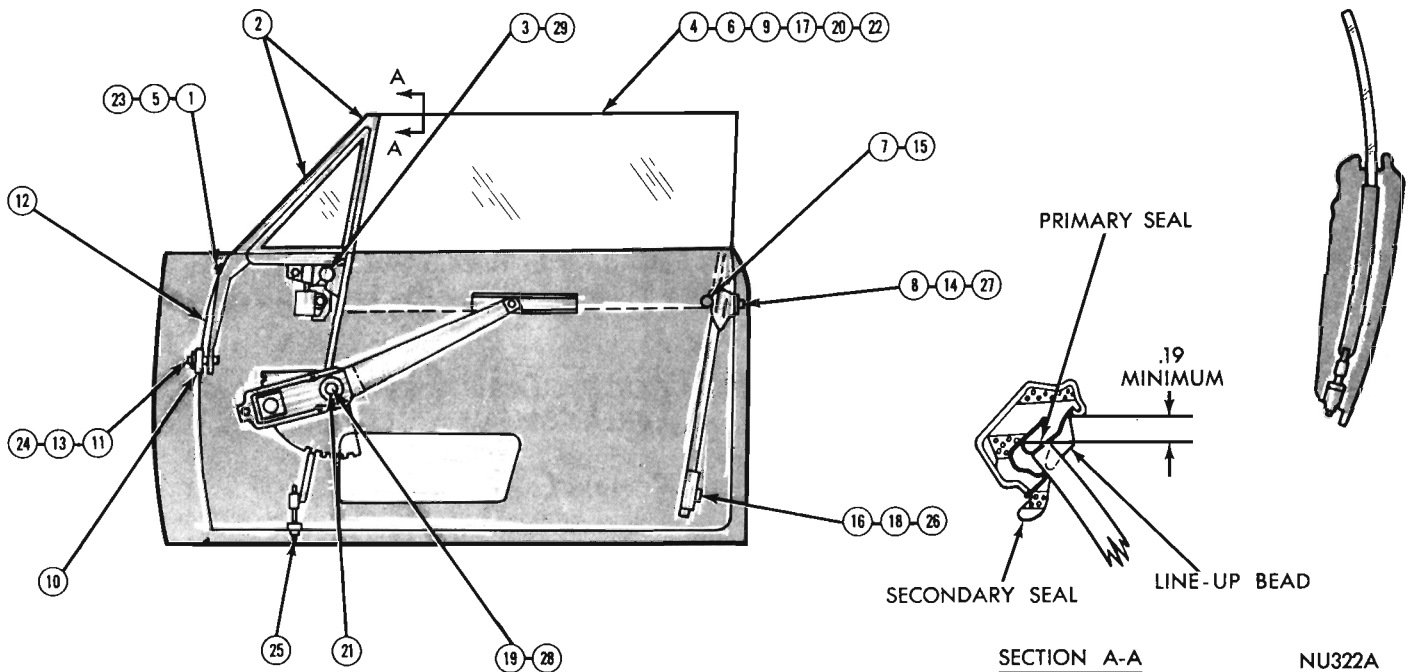

Fig. 11 - 4 Door Hardtop - Glass Adjustments
**ADJUSTMENTS (WITH VENT WING-FIG. 11)**
- (1) Lower glass fully and loosen vent wing screw on hinge face at belt line.
- (2) Align and set vent wing to "A" post and roof rail weatherstrip.
- (3) Snug secure vent wing screw at belt rear attachment and raise glass fully.
- (4) Set top edge of glass parallel to line up bead on roof rail weatherstrip.
- (5) Snug secure vent wing screw on hinge at belt line.
- (6) Run glass approximately 1/3 down.
- (7) Adjust rear run channel upper attachment so glass lightly touches on outer weatherstrip and up
Tighten callouts 23 through 29 securely (Fig. 11)